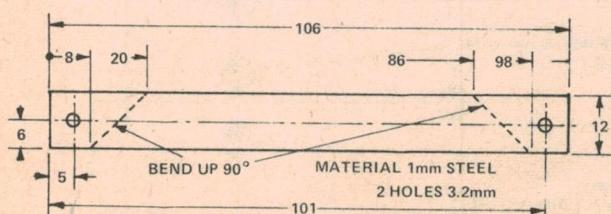

Fig 3. The bracket used to support the rear panel.
Assemble the components as shown in the overlay diagram, Fig. 3. Resistors R1 and R2 are mounted vertically. Take care that the capacitor (C), which is an electrolytic tantalum type, is mounted the right way round. These capacitors are not marked with positive and negative signs so you have to know the rule: When you hold the capacitor so that the coloured dot is facing you, the right hand lead is the positive one. This lead must go into hole D2 as shown in the overlay diagram.
Fig.2. This shows the places where you have to cut the tracks in the Veroboard. After mounting the components as shown in Fig.3 the connections are soldered as indicated below.